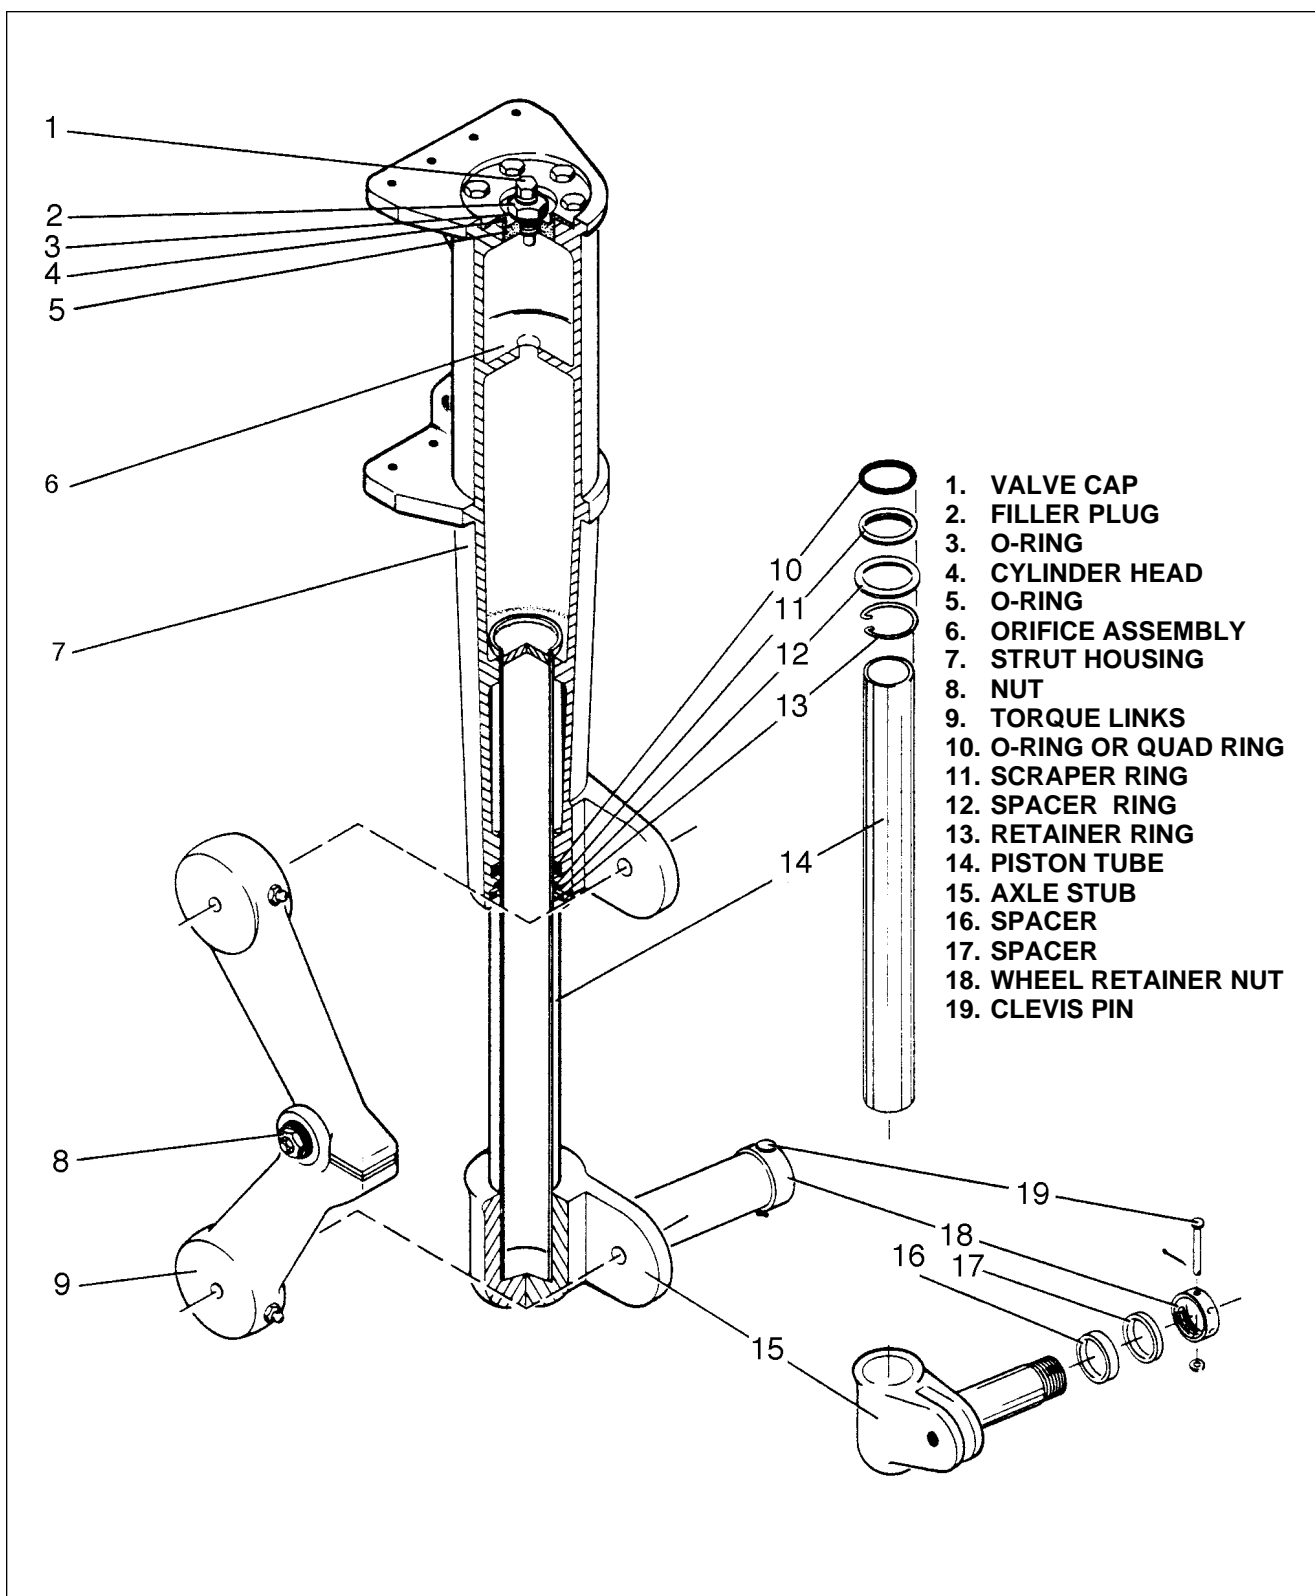

Figure 7-5. Main Gear Oleo Strut Assembly
7-14. DISASSEMBLY OF MAIN GEAR OLEO. (Refer to Figure 7-5.) The main gear axle (19) and piston tube assembly (18) may be removed from the cylinder housing (7) with the gear removed from or installed on the airplane.
- 4. The scraper ring (15) is located inside the lower end of the cylinder housing may be removed by first removing the retainer ring (17), spacer ring (16) and then the scraper ring.
- 5. The O-ring seal (14) located just before the scraper ring may be removed by using a curved wire or spoon shaped tool and inserting it under the ring.
- d. The cylinder head, may be removed cutting the wire and removing the bolts that secure the cylinder head (4) in the top of the housing. Remove the assembly from the housing.
7-16. ASSEMBLY OF MAIN GEAR OLEO. (Refer to Figure 7-5.)